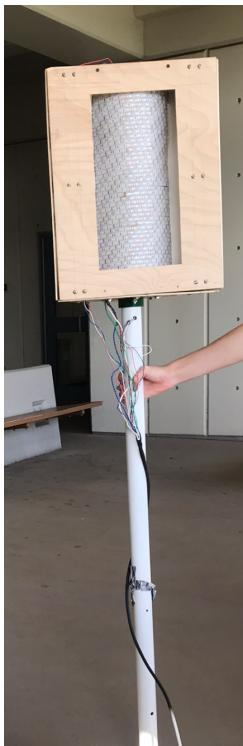

Figure 7: Head on view of light pole showing where wires run on pole
17. Run wires that power LED lights through PVC pole and through wooden plywood as seen in figure 7.